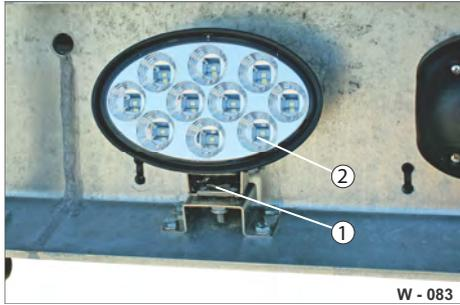

Fig. 81 Working light outside at rear
- ▶ Loosen the fixing screw (Fig. 81/1).
- ▶ Remove the LED light (Fig. 81/2).